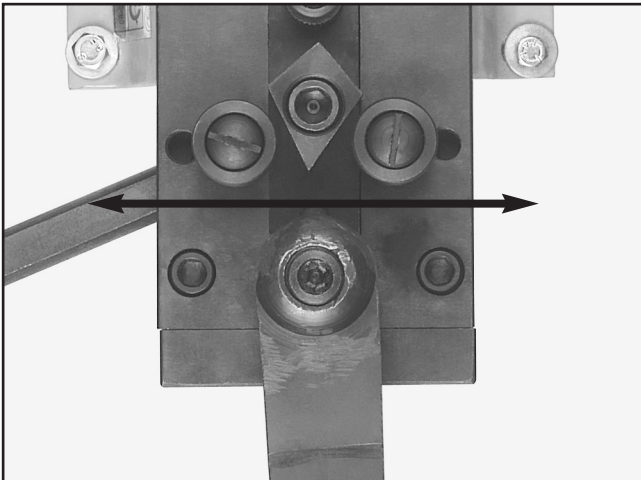

Figure 7. Work placement for rolling.
2. Place the workpiece between the feed roller and the guide rollers (**Figure 7**).